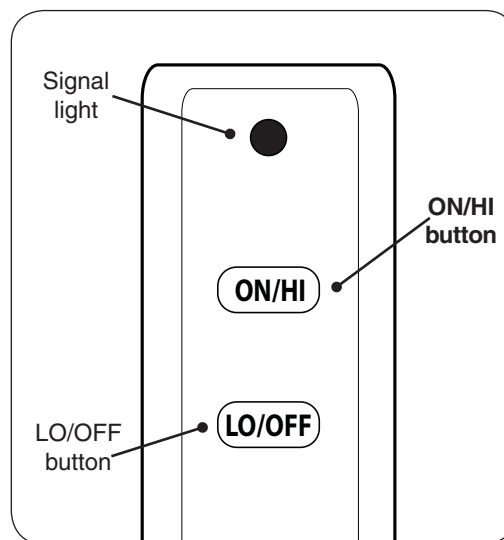

Fig. 21-1 Remote transmitter detail
2. Locate the remote transmitter and press and hold the **ON/HI** button (see Fig. 21-1). The ignition sequence will begin.